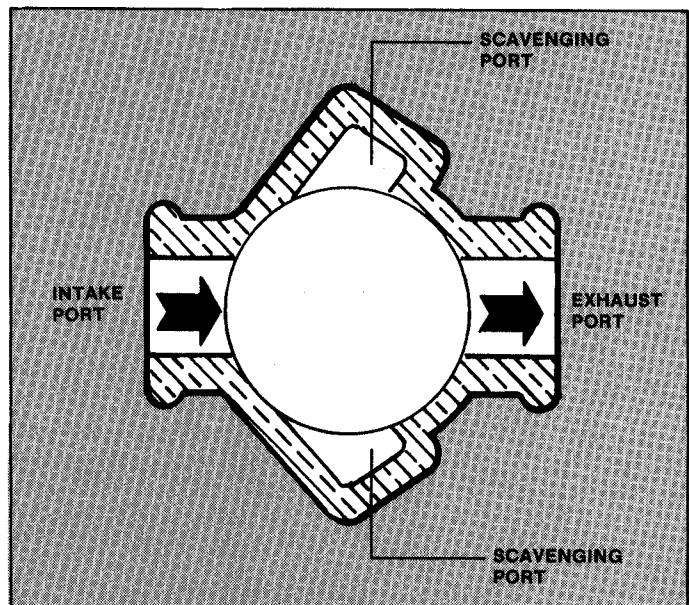

FIGURE 2.10
A. The cylinder casting contains an intake port, exhaust port and two scavenging ports. The inside surface is porous chrome plated for improved durability. See Figure 2.10.